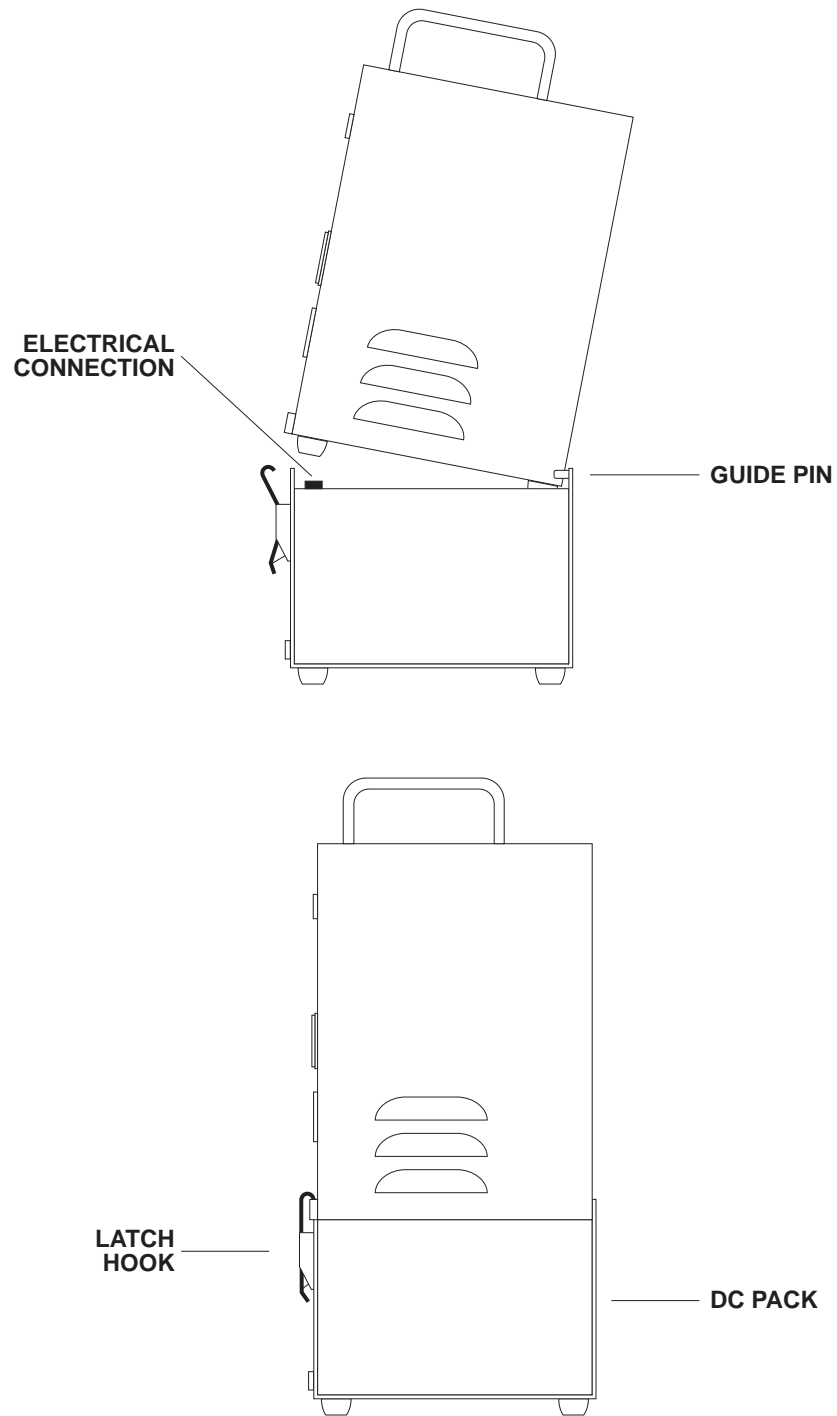

Figure 2.1
- 2) Tilt the sampler approximately 10°, as shown in Figure 2.1, and engage the female guide-pin receptacle into the guide pins of the battery pack or power module. Rotate the unit around the guide pins such that the back lip of the battery pack or power module slides over the recess on the back bottom of the sampler.